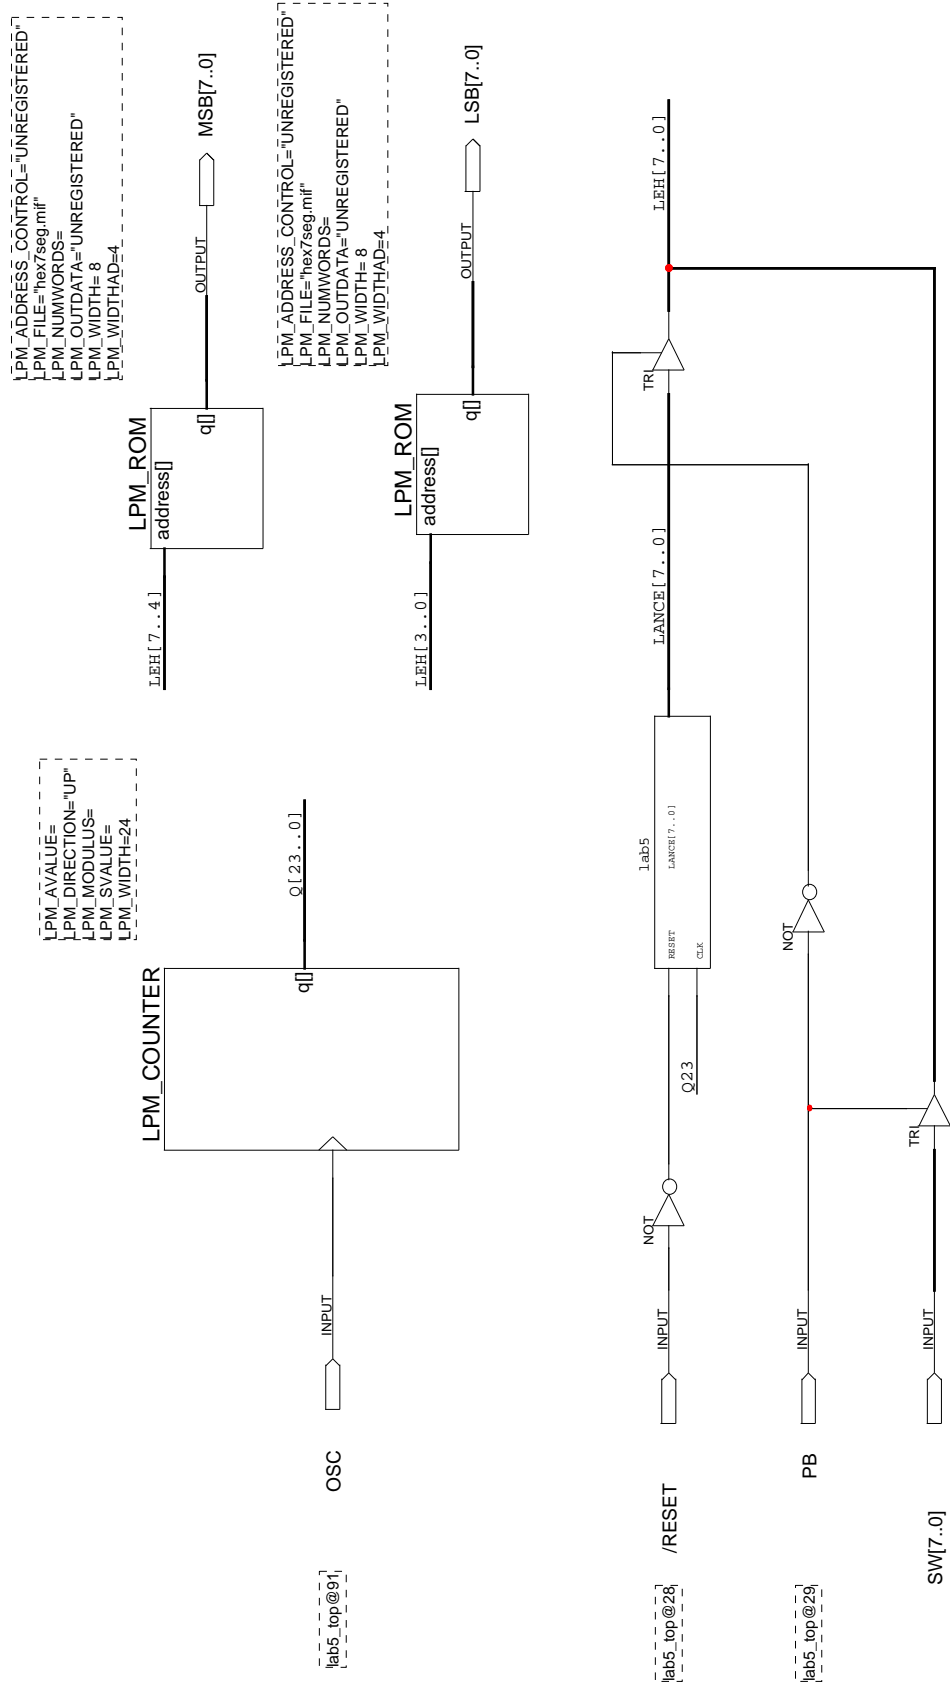

FIGURE 3
- Select **tri** from the primitive library. Although this primitive represents a single tri-state buffer, it can be connected to a bus and the Altera compiler will automatically generate a "primitive array" of the same width as the bus. Place a tri buffer at the output of the Fibonacci subcircuit and another connected to an **input** primitive, as shown in Figure 3.
- Add the remaining components and connect the circuit as shown in Figure 3. Select **Line Style** (Options menu) to draw a bus between the input switches, SW[7..0], and the tri component.
- Label the output of the Fibonacci circuit with *your* name and the output of the tri-state multiplexer with *your* initials. An example is given in Figure 3.
- Altera schematic for your top-level schematic, similar to Figure 3.